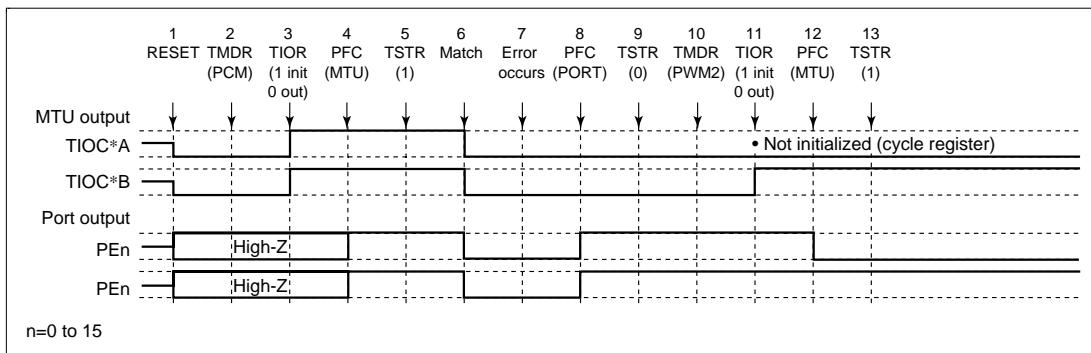

Figure 12.114 Error Occurrence in Phase Counting Mode, Recovery in PWM Mode 2
(19) Operation when Error Occurs during Phase Counting Mode Operation, and Operation is Restarted in PWM Mode 2: Figure 12.114 shows an explanatory diagram of the case where an error occurs in phase counting mode and operation is restarted in PWM mode 2 after re-setting.